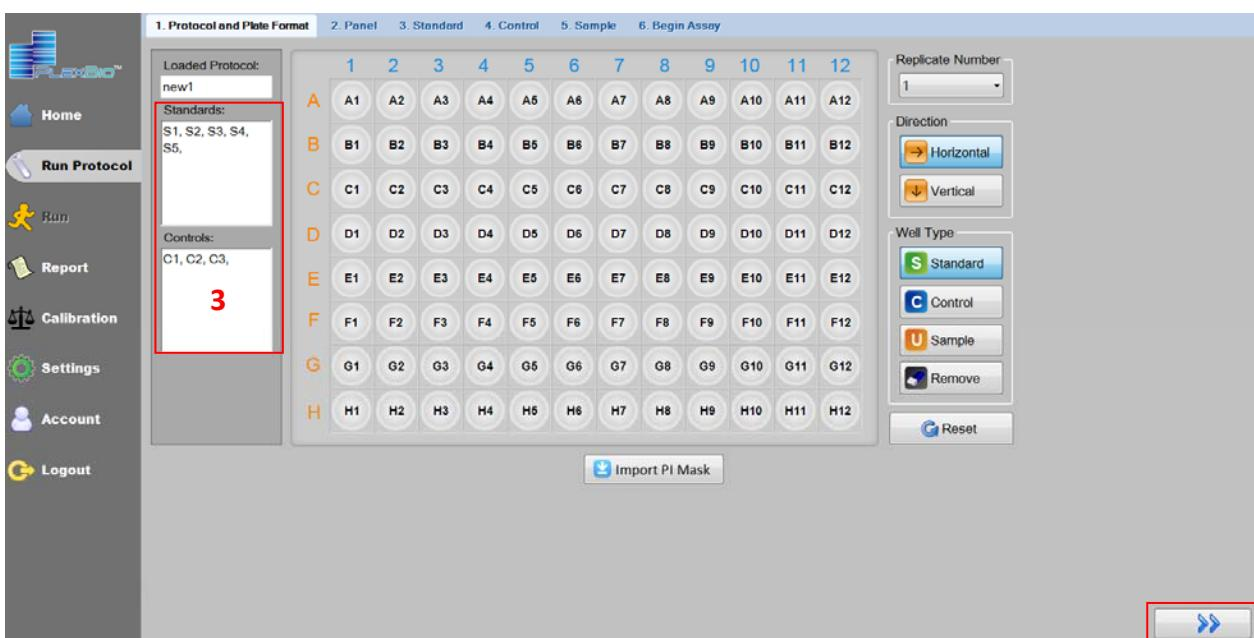

Figure 70. Run Protocol/ Protocol and Plate Format
- Step 3. DeXipher™ will display the details of the loaded protocol (See Figure 70).